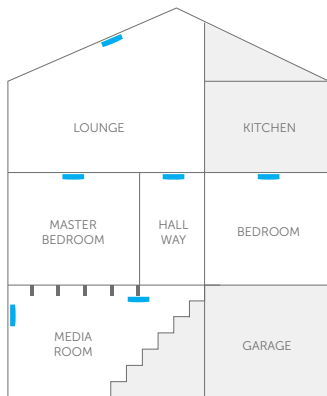

Figure 1
- Refer to Figures 1 - 5 for recommended locations.
Avoid due to potential false alarms from cooking fumes, smoke or heat particles. (see Figure 1 & 2).
Avoid garages due to vehicle engine emissions causing nuisance triggering (see Figure 1).